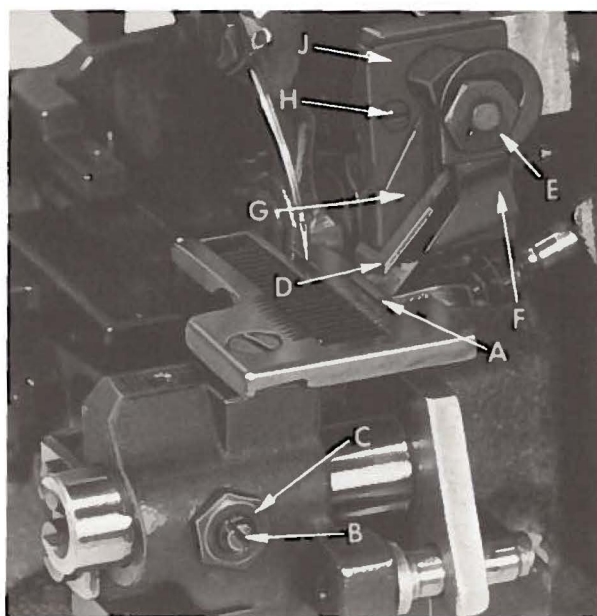

Fig. 11
Replace lower knife holder assembly. Lower knife (A, Fig. 11) should be set with cutting edge flush with throat plate surface. Adjustments are made with hexagonal head screw which holds lower knife. Lower knife is spring pressed against upper knife, so no lateral adjustment is necessary when width of trim is changed.
Replace upper knife assembly. Clamp upper knife (D, Fig. 11) in position, setting nut (E) to hold clamp (F) in its most clockwise position against upper knife. At bottom of its stroke, front cutting edge of upper knife should extend not less than $\frac{1}{64}$ inch below cutting edge of lower knife. The chain guard (G) should be set down against the upper knife and slightly back from the cutting edge.